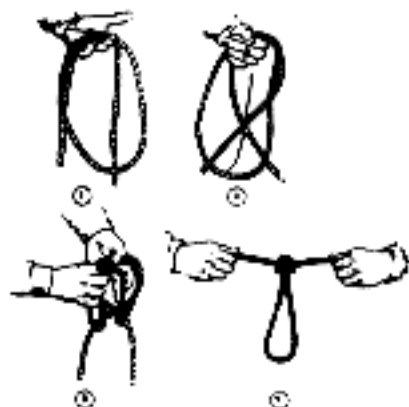

Figure 10-6. Butterfly
(1) Butterfly - Forms a single fixed loop in the middle of a rope. The wings of the knot must be dressed down tightly and close together. The ropes between the wings must be parallel with no cross over. The loop should be large enough to accept a snaplink. All ropes in the knot must be tightly dressed (figure 10-6).